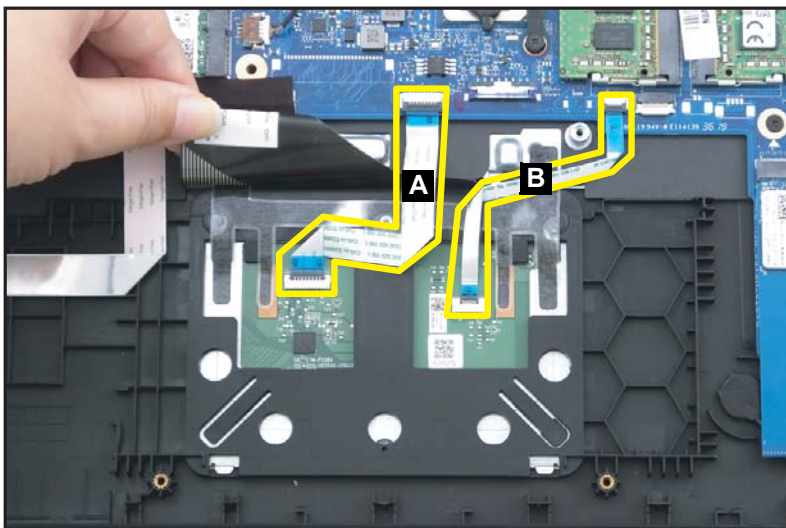

Figure 1-24. Touchpad Module Removal
1. Slightly lift the keyboard FPC, and then disconnect the touchpad FFC (A) from the touchpad module and mainboard connectors (Figure 1-24).
2. Disconnect the fingerprint FFC (B) from the touchpad module and mainboard connectors (Figure 1-24).